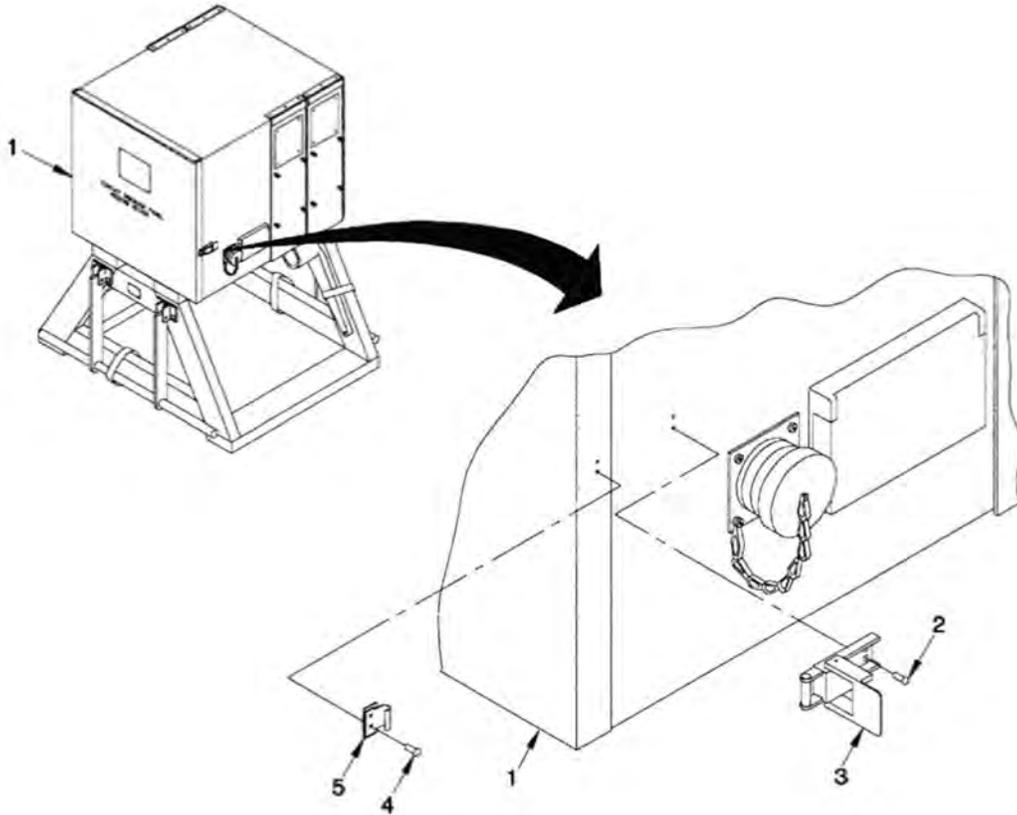

Figure 1. Latch Assembly, Circuit Breaker Access Cover.
5. On circuit breaker access cover (Figure 1, Item 1) position latch catch (Figure 1, Item 5) and install rivets (Figure 1, Item 4) into holes with hand riveter.
6. Close circuit breaker access cover (Figure 1, Item 1).